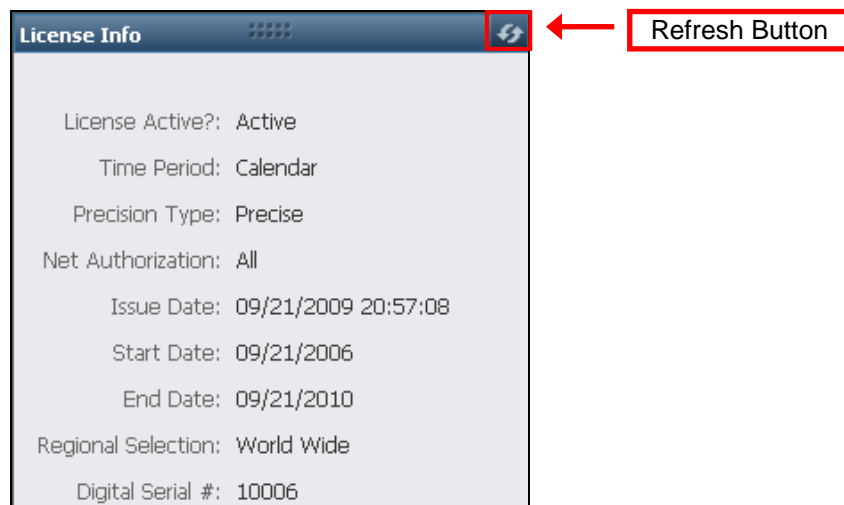
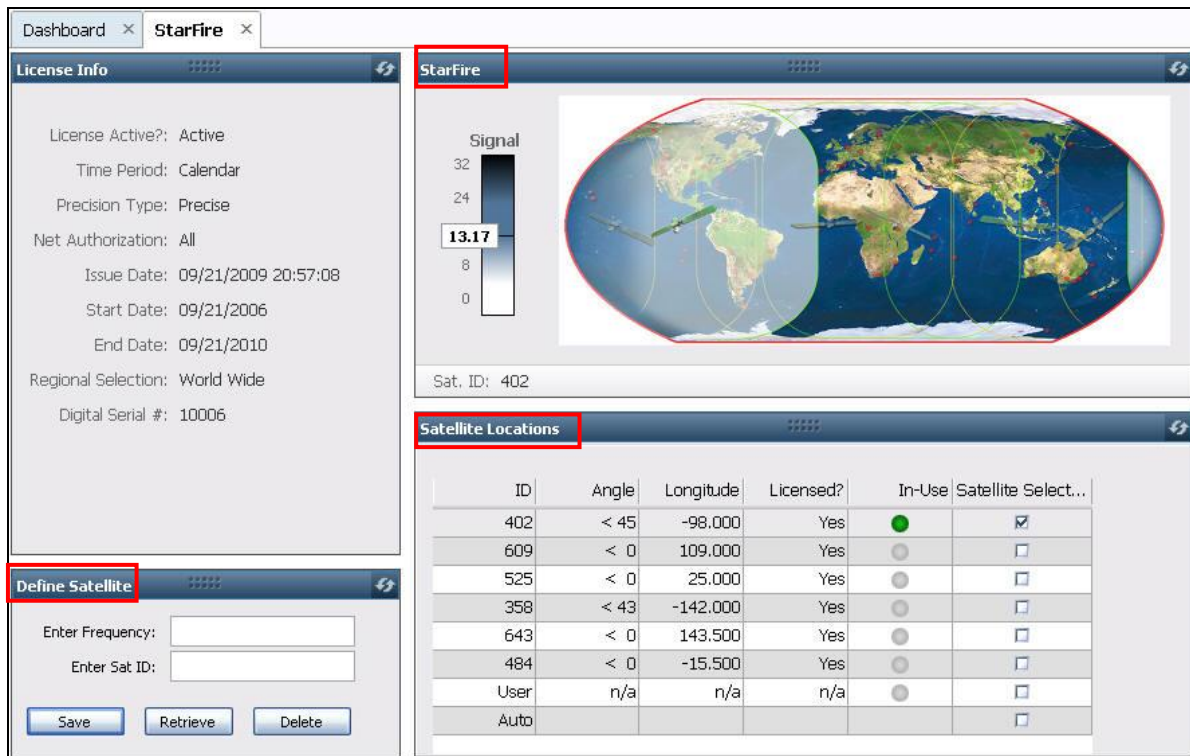

Figure 112: StarFire License Info
Figure 118: PVT Tab – StarFire Tab
- Click  (refresh) on the *License Info* window (see Figure 112) to ensure that the most current output data are displayed.
- Verify this StarFire license data (see Figure 112):
The windows on the *StarFire* tab are described below: *StarFire*, *Satellite Locations*, and *Define Satellite* (see Figure 118). Refer to Figure 112 for information about the *License Info* window.